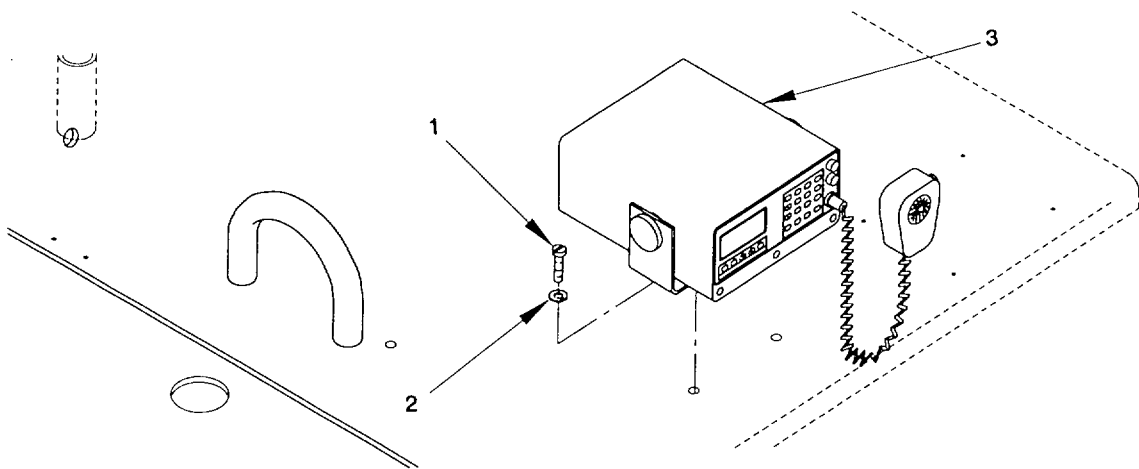

Figure 2-105. Receiver/Transmitter (VHF-FM), Remove/Install
a. *Remove.* (figure 2-105)
- (1) Tag and disconnect electrical wiring to receiver/transmitter (3). Refer to Appendix G.
- (2) Remove four pan head screws (1) and four lock washers (2) securing receiver/transmitter (3). Remove receiver/transmitter (3).
b. *Install.* (figure 2-105)
- (1) Apply antiseize compound to threads on pan head screws (1).
- (2) Position new receiver/transmitter (3). Secure with four pan head screws (1) and four lock washers (2).
- (3) Reconnect electrical wiring, as tagged, to receiver/transmitter (3). Refer to Appendix G.